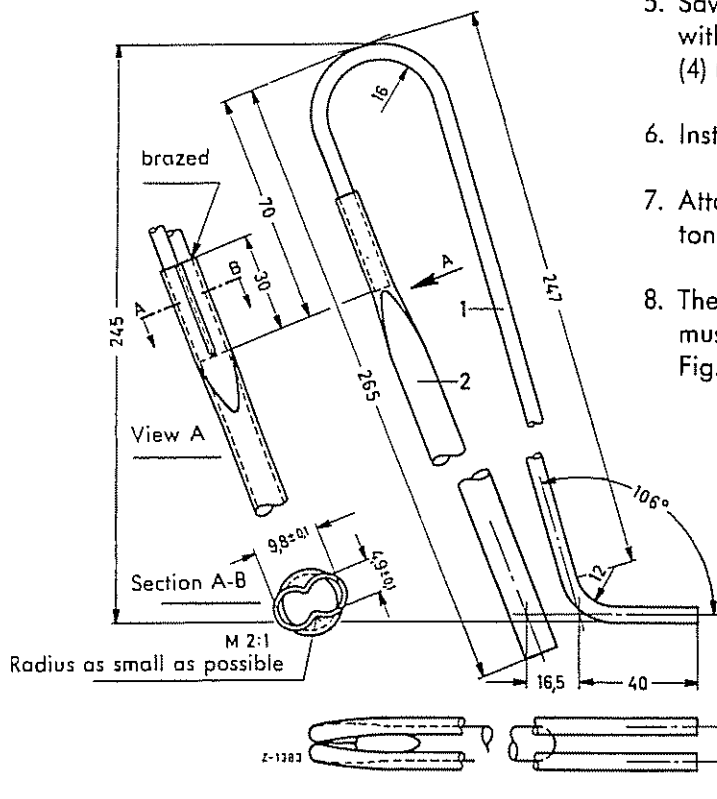

Fig. 47-1/3
5. Saw off the two vent lines (2) and (3) flush with the pipe socket of the breathing line (4) (Fig. 47-1/2)